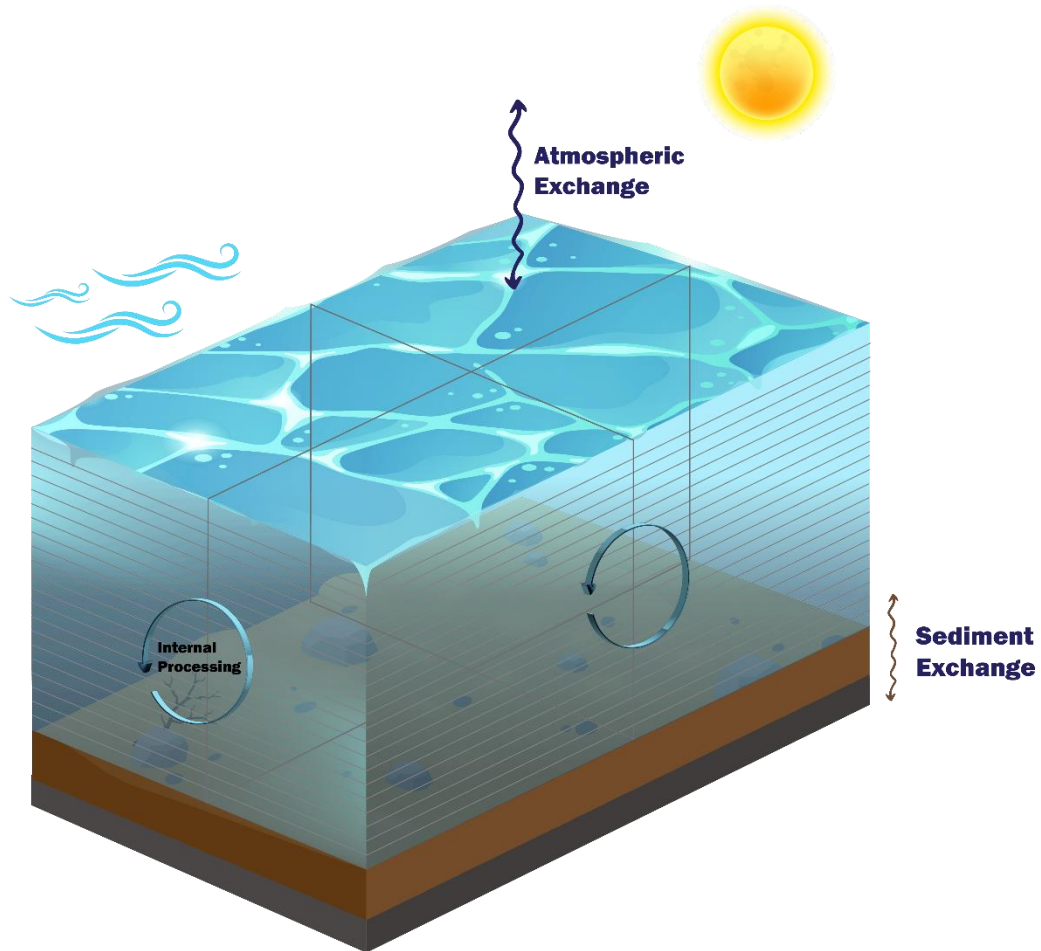

Figure 2-5 Mass conservation model schematic
- Comprises four (4) 2D cells of approximately the same bed elevation and eighty (80) 3D cells. Its geometry is therefore four columns (Figure 2-5)